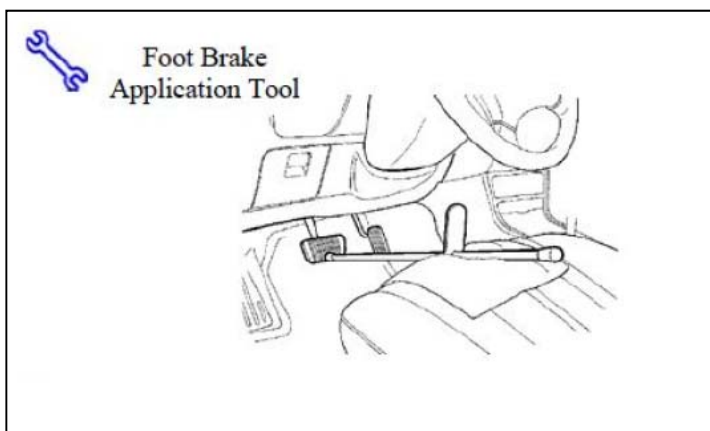

Figure 3
3. Add seat protection (blanket) and apply foot brake using foot brake application tool. (Optional Step) Lift Vehicle. See Figure 3.